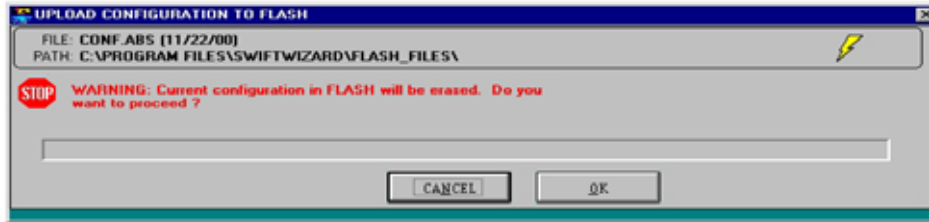

Figure 14: Flash Upload Dialog Box
5. When the correct drive and directory have been selected, click the file containing the car software (or Meridia configuration data) from the file list. Note that the information about the file in the top right area includes the message “Not a valid Parameter file”. This is because the same Window is used to select Parameter files, for a different purpose, as well as these Flash files. Click the UPDATE CONTROLLER SOFTWARE button (note that the button still has this name even if it is only Meridia configuration data, in which case software will not actually be changed) and the Flash update information/confirmation Window (Figure 14) will appear.